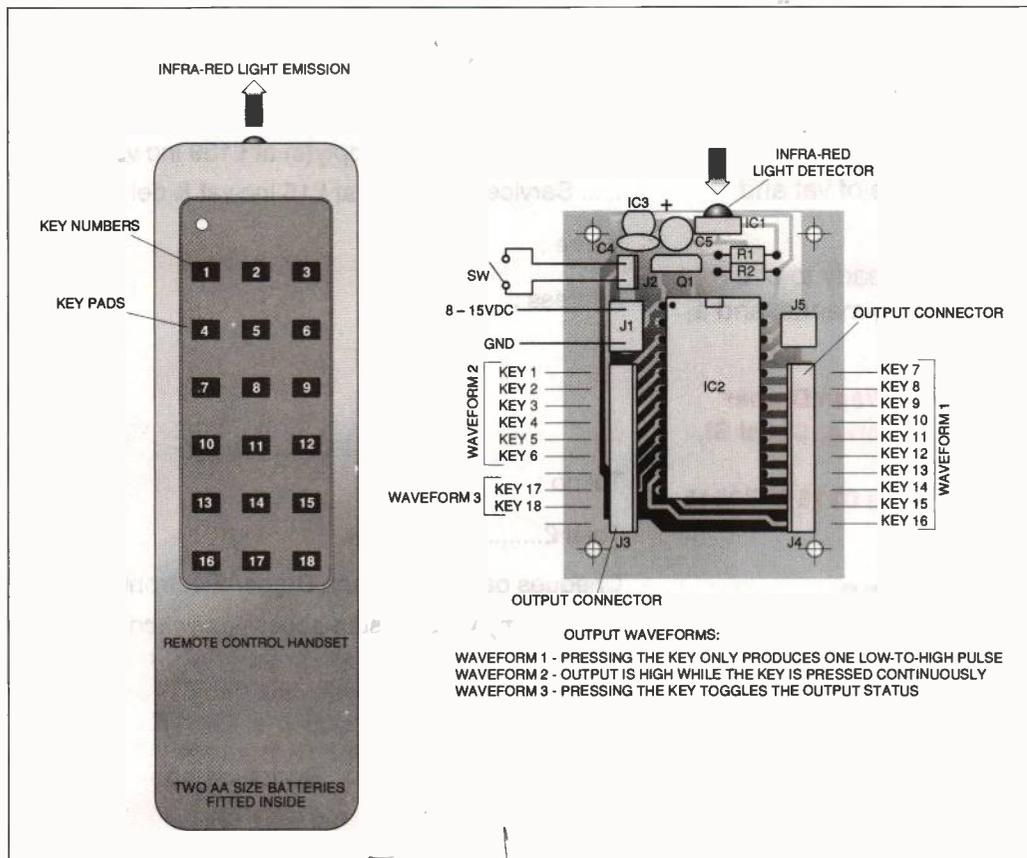

Figure 1: the 18-channel infra-red remote control system
**T**he remote controller consists of a receiver board with 18 remotely controlled digital outputs (figure 1), which responds to a transmitter handset with an 18-key keypad. The handset requires two 1.5-V AA size batteries. The maximum control distance is up to 10 meters. The handset unit or the chips are available from the author.